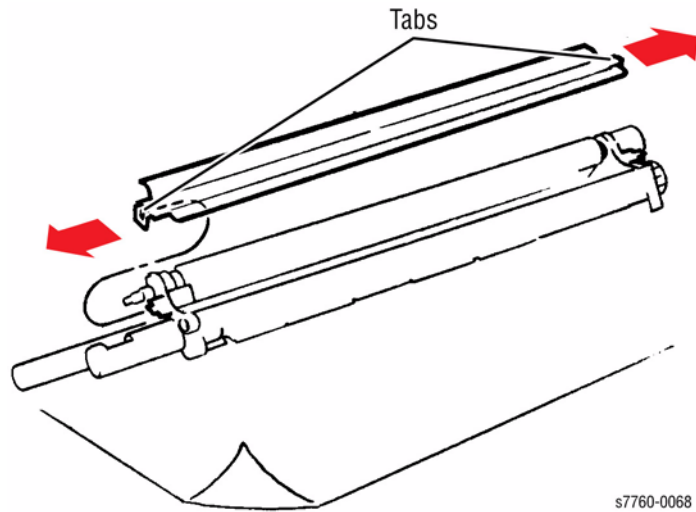

Figure 2 Removing Housing Cover
- b. Release Tabs and remove the Housing Cover (Figure 2).